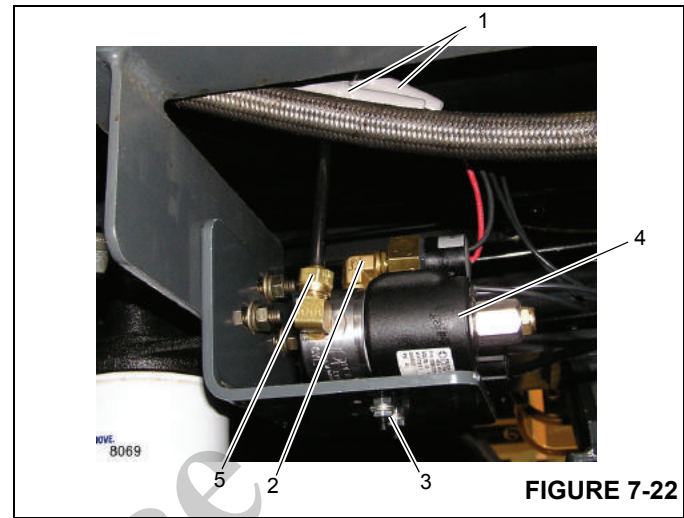

FIGURE 7-22
2. Tag and disconnect the electrical connectors (1) (Figure 7-22).
4. Remove the hardware (3) securing the valve to the bracket and remove the air valve (4).